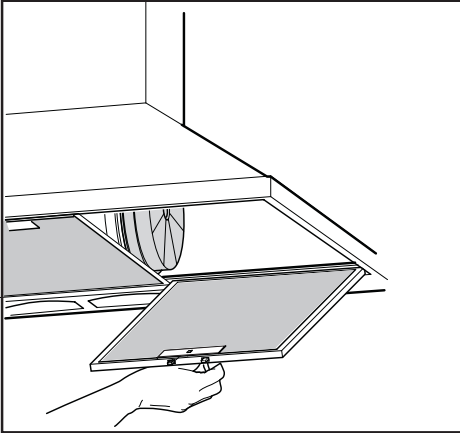

Fig.6
- The minimum distance between the support surfaces of the cooking pots on the cooker top and the lowest part of the cooker hood must be at least 65 cm. If a connection tube composed of two parts is used, the upper part must be placed outside the lower part. Do not connect the cooker hood exhaust to the same conductor used to circulate hot air or for evacuating fumes from other appliances generated by other than an electrical source. Before proceeding with the assembly operations, remove the anti-grease filter(s) (Fig.6) so that the unit is easier to handle.